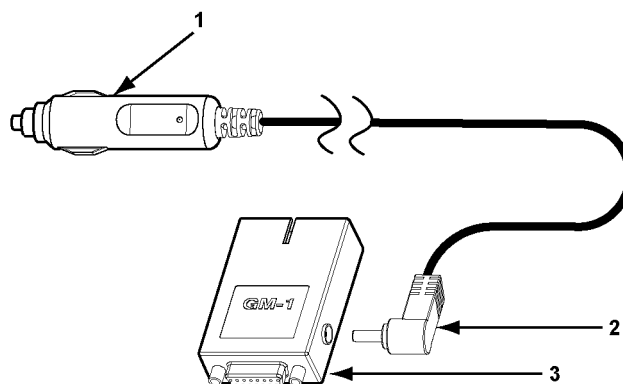

Figure 3-4 Auxiliary power cable connections
1. Connect the required test adapter to the data cable (Figure 3-4).